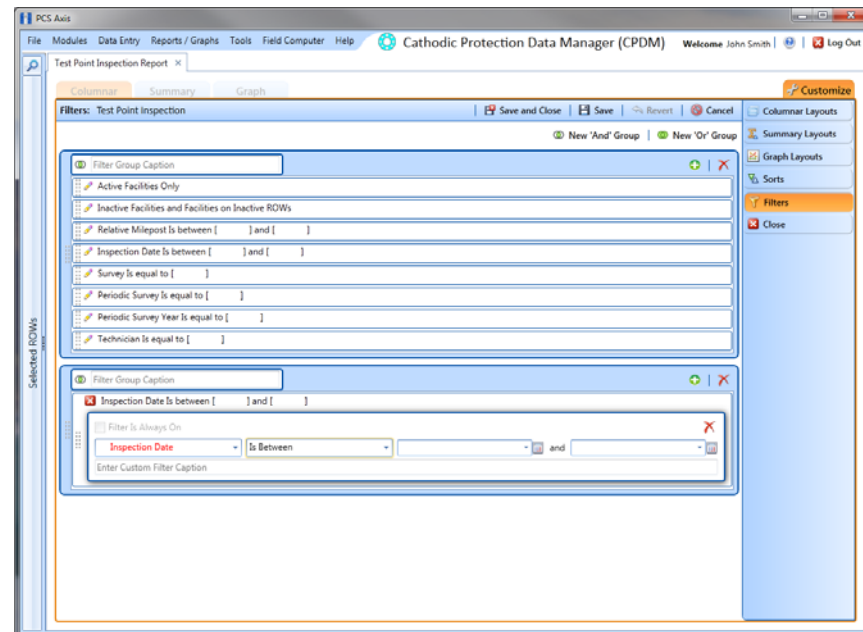

Figure 14-41. New 'And' Filter Group
- 4 Click  **New 'And' Group** to open the filter properties group box (Figure 14-41).
- 7 When adding a date filter, such as *Inspection Date Is Between*, set a date range using a calendar or dynamic dates in the following manner (Figure 14-41, page 581):